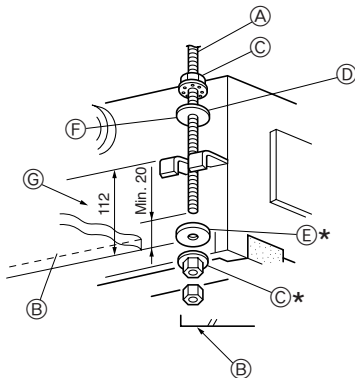
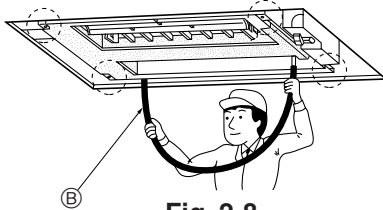

Fig. 2-7
Fig. 2-8
1. Thread washers ① ② (supplied) and their nuts (procured locally) onto the suspension bolt in advance. (Fig. 2-7)
* Do this in the following order (from the top): nut, insulated washer ②, washer without insulation ①, two nuts.
* Position insulated washer ② with the insulated surface pointing down, as in the figure.
2. Lift the unit into place, aligned properly with the suspension bolt. Pass the bracket between washers ① and ②, which are already in place, and secure it. Do the same in all four places.
① Suspension bolt (3/8" or M10)
② Washer ①
③ Ceiling surface
④ (Install with insulation facing down)
⑤ Nut (3/8" or M10)
⑥ Measurement to upper face of bracket
⑦ Washer ② (with insulation)
4. Check that the four corners are all level, using a spirit level or clear plastic tubing with water in it. (Fig. 2-8)